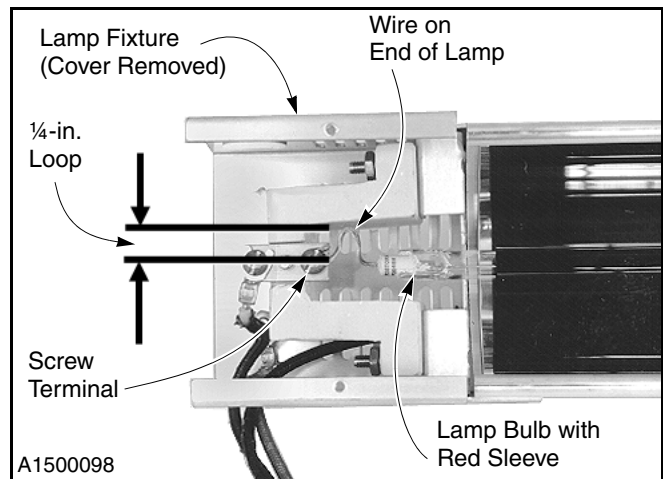

Figure 75
3. To release the lamp bulb, loosen the screw terminal located at each end of the fixture. (See Figure 75.)
6. Connect the wire on the ends of the lamp to the screw terminal located on each end of the fixture. (See Figure 75.)
Leave a ¼-in. loop on the end of the wire as shown in Figure 75. If the loops are not made, the bulb can become damaged when the fixture expands as a result of the heat output from the lamp.